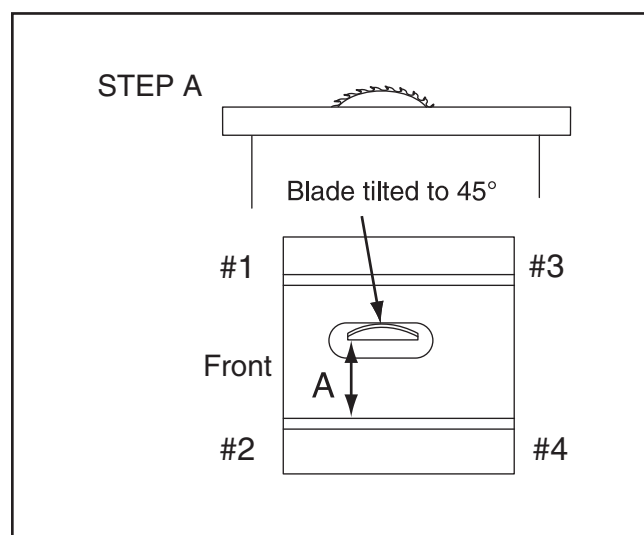

Figure 109. Shim procedure diagram A.
10. Refer to **Figures 109–110** for shim placement. If distance of A is shorter than B, shim(s) will need to be placed under corners #1 and #2. If distance of B is shorter than A, shim(s) will need to be placed under corners #3 and #4. Very thin shim stock works well.